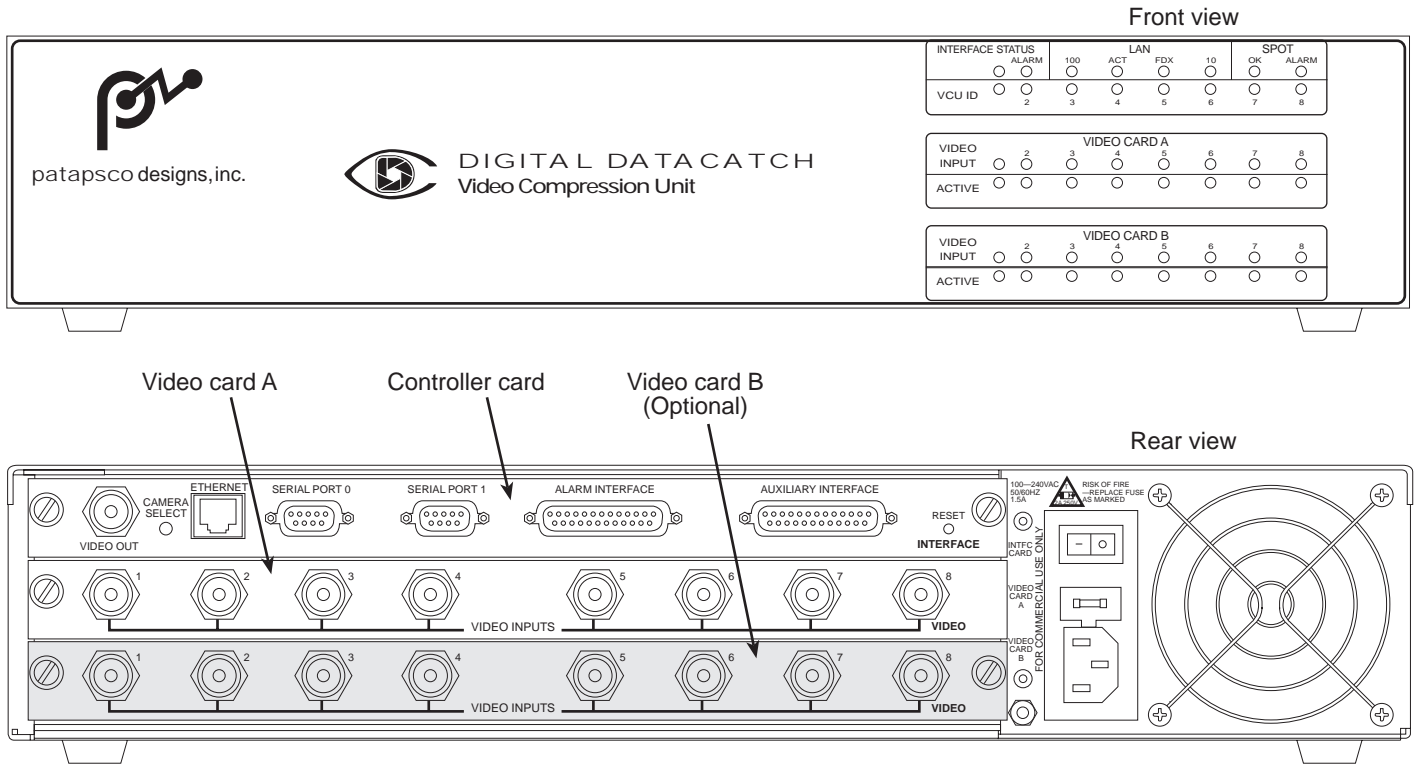

Figure 4. Video compression unit
- Up to 8 VCUs (see figure 4 on page 16). Each VCU compresses the NTSC video signals from as many as 16 color cameras and outputs the processed signals to the system workstation via a 100-Mbyte Ethernet link.